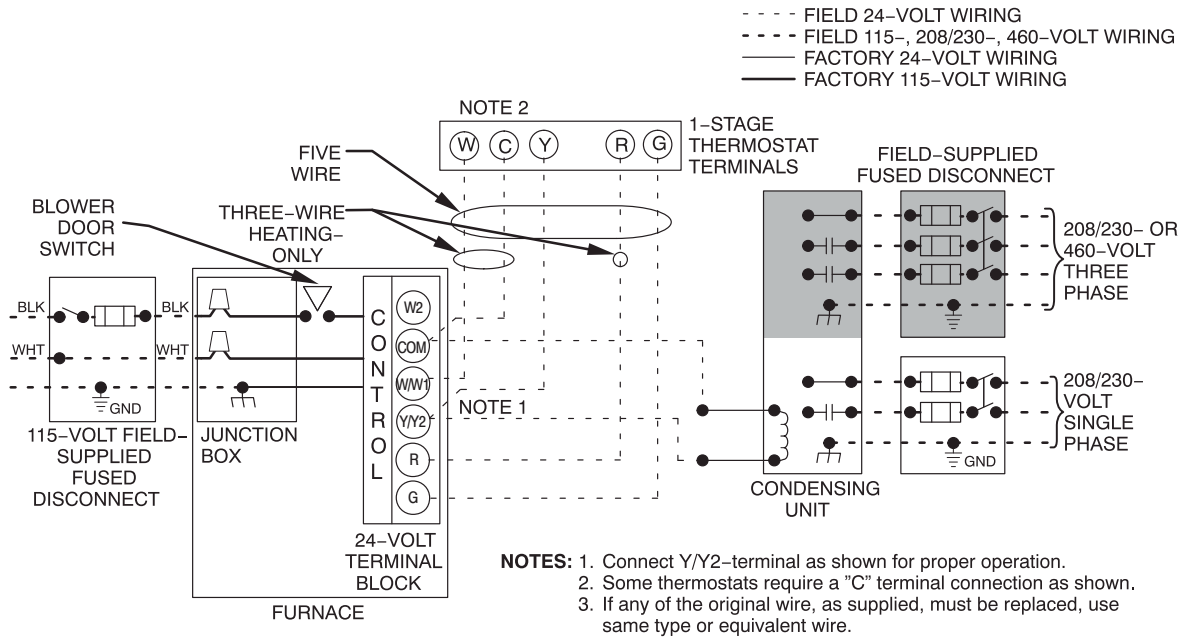

Fig. 38 – Typical Two-Stage Field Wiring Diagram
6. Connect power cord power and neutral leads to furnace power leads as shown in **Fig. 38**.
5. Connect field power and neutral leads to furnace power leads as shown in **Fig. 38**.
Make field 24-v connections at the 24-v terminal strip. See **Fig. 39**. Connect terminal Y/Y2 as shown in Fig. 38 for proper cooling operation. Use only AWG No. 18, color-coded, copper thermostat wire.